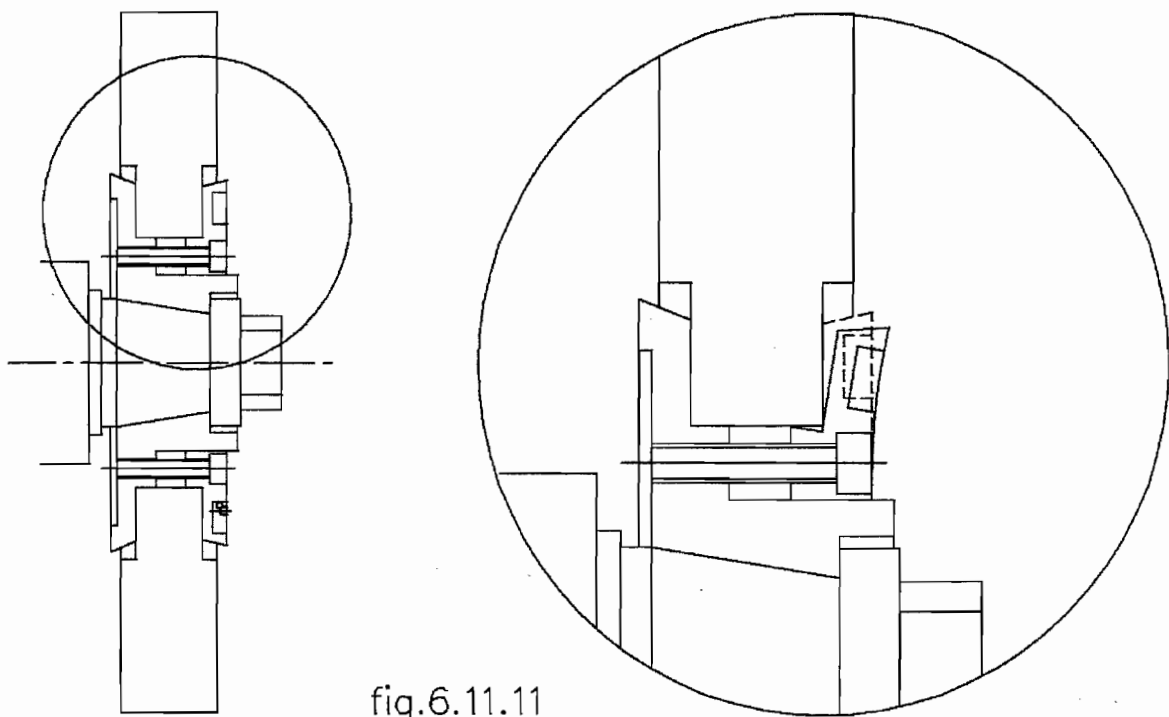

fig.6.11.11
1. Do not install flange in the wrong way as FIG 6.11.11.